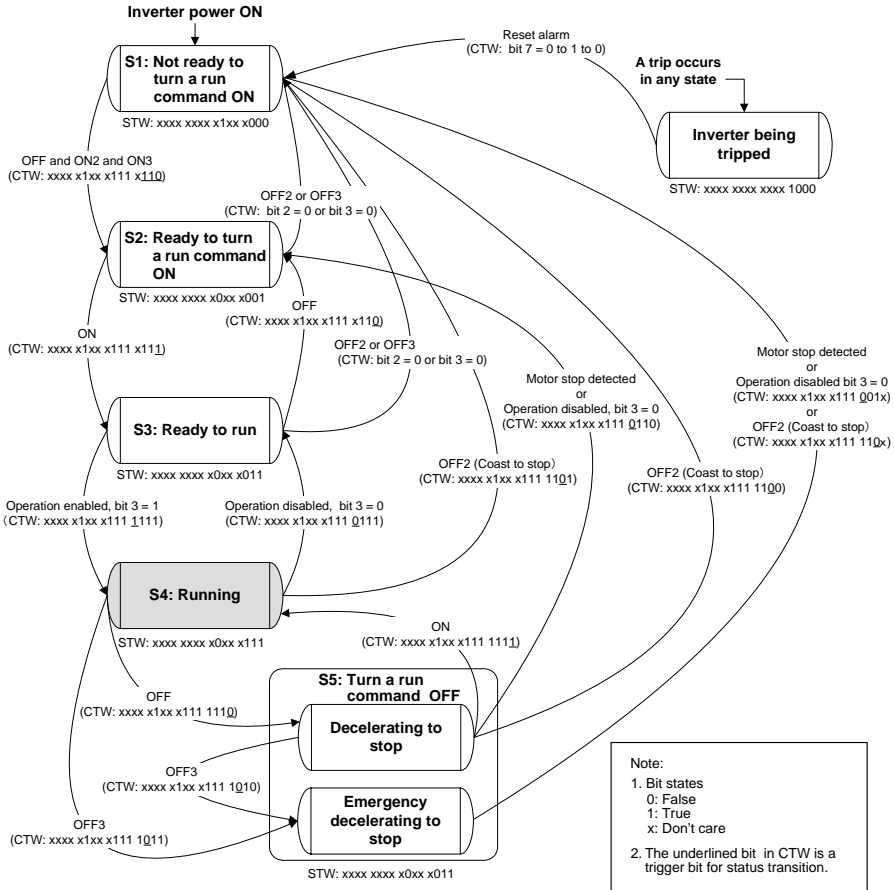

Figure 14 Status Transition Diagram of PROFdrive Profile
For the status transition condition of the PROFIdrive profile, refer to Section (2) "STW (status word)" and Figure 14 on the following pages.
STW indicates the status transition of the PROFIdrive. The status transition details are shown in Figure 14.
Figure 14 illustrates a status transition diagram of the PROFdrive profile.
**Note** In Figure 14, to simplify the description, values of Bit 4 to Bit 6 and Bit 10 in CTW are always "1." If any one of these bit values is not "1," the inverter will not enter the running state even if the status transition properly proceeds.